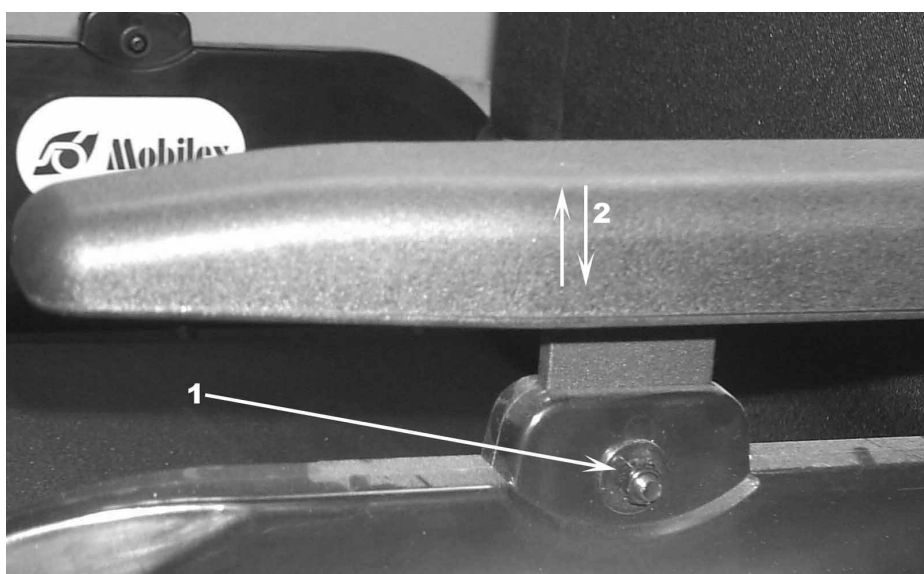

Fig. 3
The armrests are height-adjustable (Fig. 3). To change the position one should slacken a screw (1), choose the height of the armrest (2) and then tighten the screw.